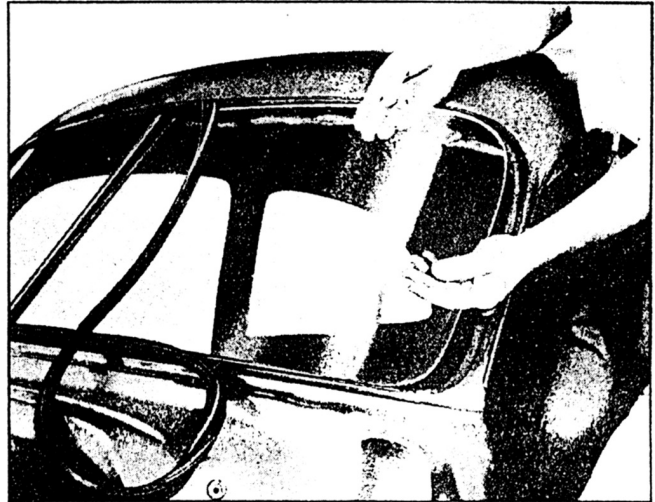

Fig. 15—Disengaging Glass from Weatherstrip
11. Loosen the seal of weatherstrip cement between the glass and rubber channel. Disengage the rubber weatherstrip from the glass and lift glass out of body opening (fig. 15).